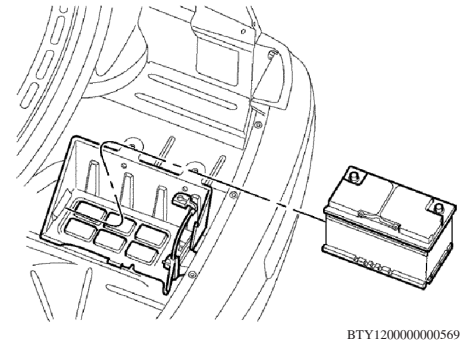

Fig. 4 Battery installation
1. Position battery in battery tray, **Fig. 4**.